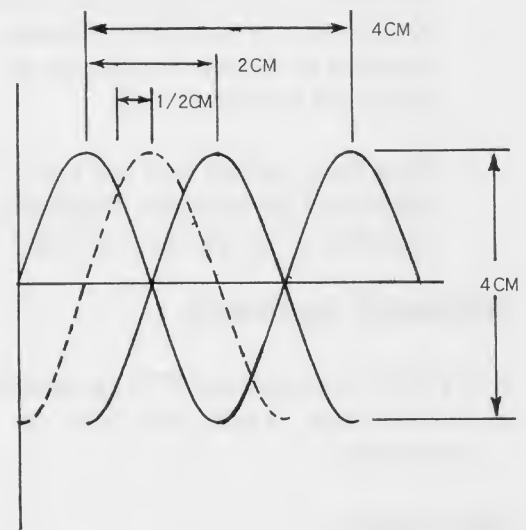

Figure 4-1. Vibrato Adjustment Waveform
- i. Depress the VIBRATO NORMAL tab. Adjust the VIBRATO WIDTH control for a total phase shift swing of 2 cm. (refer to Figure 4-1). If VIBRATO WIDTH control does not give satisfactory result, select R133, Figure 5-1 through 5-4 between 220Ω and 1K.
- j. Release VIBRATO NORMAL tab. Single wave must be centered $\pm \frac{1}{2}$ cm. as shown in Figure 4-1.